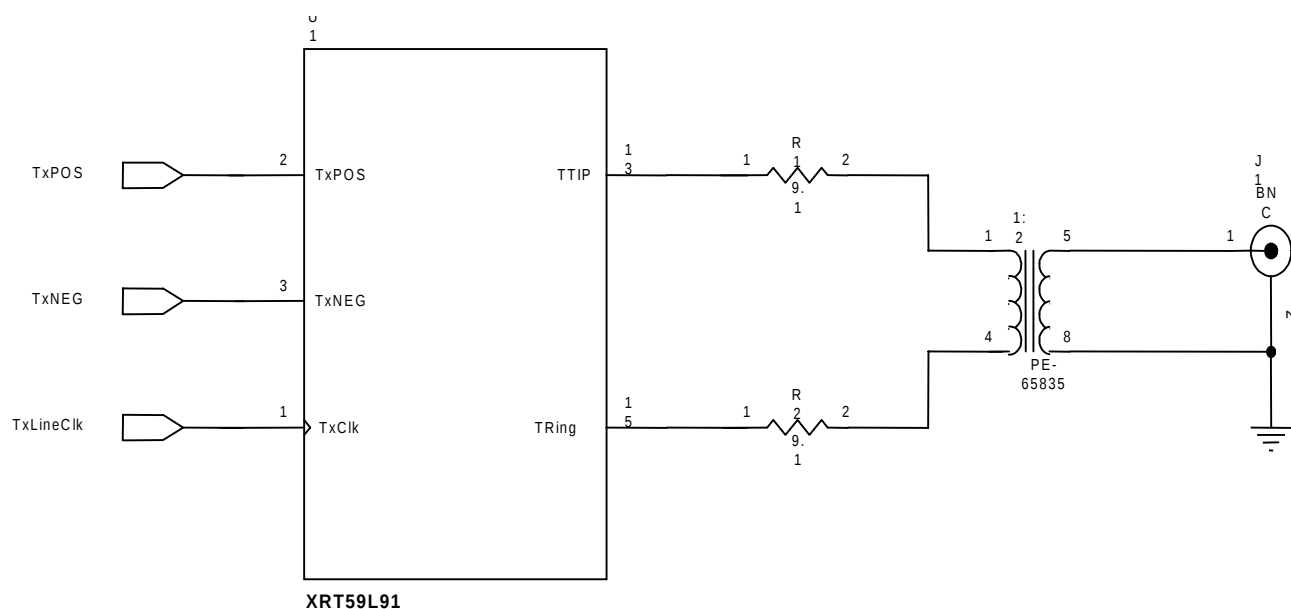

Figure 5. Illustration of how to interface the Transmit Section of the XRT59L91 device to the Line (for “75W” Applications)
In both applications (e.g., 75W or 120W), the user is advised to interface the Transmitter to the Line, in the manner as depicted in Figures 5 and 6, respectively.
1. Figures 5 and 6 indicate that for both “75W and “120W” applications, the user should connect a 9.1W resistor, in series, between the TTIP/TRing outputs and the transformers.
2. Figure 5 and 6 indicate that the user should a “1:2 STEP-UP” Transformer.